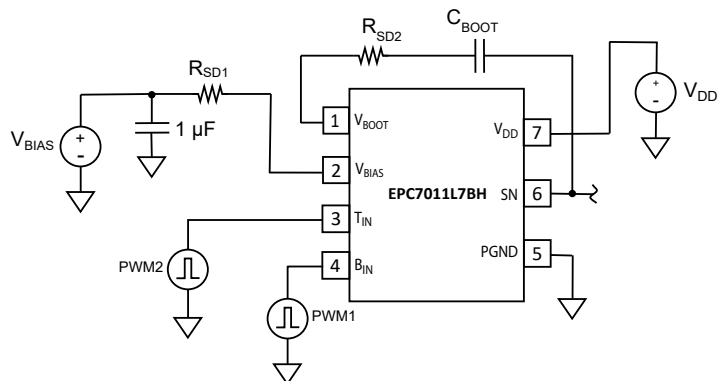

Figure 3. External Slow-Down Resistor Connections
The EPC7011L7BH is designed to be a high-speed power driver. As such it has extremely fast switching node (SN) rise and fall times by design. Fast rise and fall times can and will result in unwanted voltage spikes at the V_{DD} and PGND pins due to any parasitic layout inductance ($V_{SPIKE} = L_{Par} \cdot di / dt$). If as a result of the optimized PCB layout that these spikes cannot be reduced to an acceptable level, it is recommended that two resistors be added to the circuit to decrease the slew rates of the low-and high side gate drive signals, which in turn decreases the slew rates of the switching node rise and fall times. These resistors, R_{SD1} and R_{SD2} are shown in Figure 3.